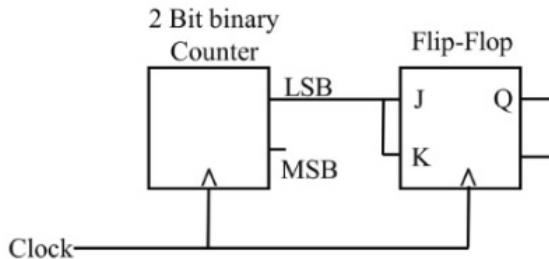

Fig. 5.12: Circuit
12. For the circuit shown in Fig. 5.12, the clock frequency is  $f_0$  and the duty cycle is 25%. For the signal at the Q output of the Flip-Flop, (GATE EC 2022)